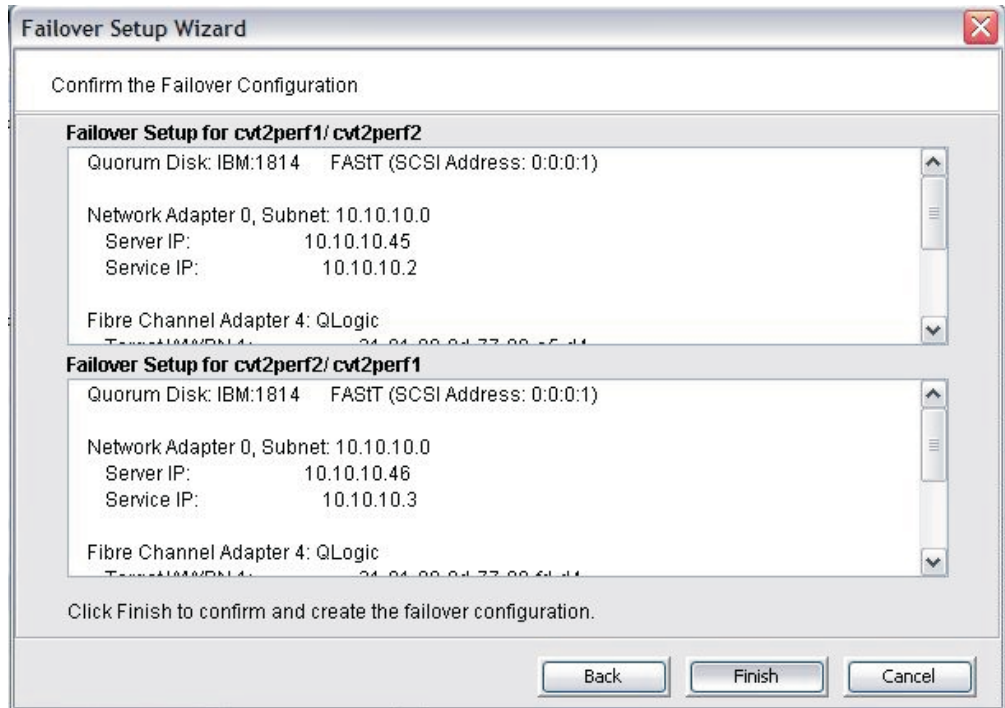

Figure 75. Confirm the Failover Configuration window
20. ___ In the Confirm the Failover Configuration window (Figure 75), verify that the entered information is correct and click **Finish**.